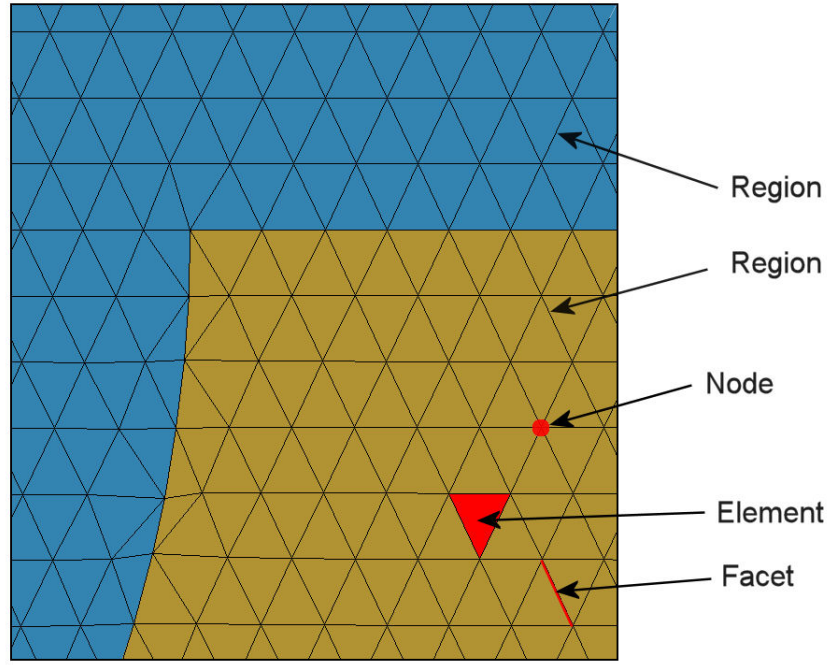

Figure 2: Conformal triangular mesh – definition of terms.
much less than the scale length for variations of field quantities. The division of the volume is called the *computational mesh*. Figure 2 shows the type of mesh used for the two dimensional solutions of **PerMag**. The figure defines three terms that will be used throughout this manual:
The elements in Fig. 2 have triangular cross-sections. In a planar solution, the cross-section lies in the x - y plane and the elements extend an infinite distance in the z direction. In a cylindrical solution, an element is a figure of revolution about the axis with a triangular cross-section in the z - r plane.
The mesh in Fig. 2 has the important property of *conformality*. The term means that the triangles have been specially shaped to conform to the boundaries between materials (*regions*). As a result, each element has an unambiguous material identity. The finite-element method is based on two approximations: 1) material properties in an element are uniform and 2) elements are small enough so that the field quantities can be approximated by simple interpolation functions. With these assumptions, the governing differential equation can be integrated over elements surrounding a node to yield a linear equation. This equation relates the field quantity at the node to those at the surrounding nodes. The coupled set has one linear equation for each node in the mesh. In **PerMag**, solution of the set representing the Poisson equation in a planar geometry gives the axial component of vector potential $\mathbf{A}_z$ at each node. In a cylindrical simulation the program calculates the stream function, $\psi = r\mathbf{A}_\theta$. We can then perform two-dimensional interpolations to find values at intervening points, or take numerical spatial derivatives to find the components of the magnetic flux density.
- **Mesh** analyzes the boundary specifications and automatically generates a set of conformal triangles such as those of Fig. 2. The program creates an output file that lists the locations of nodes and the identities of elements.